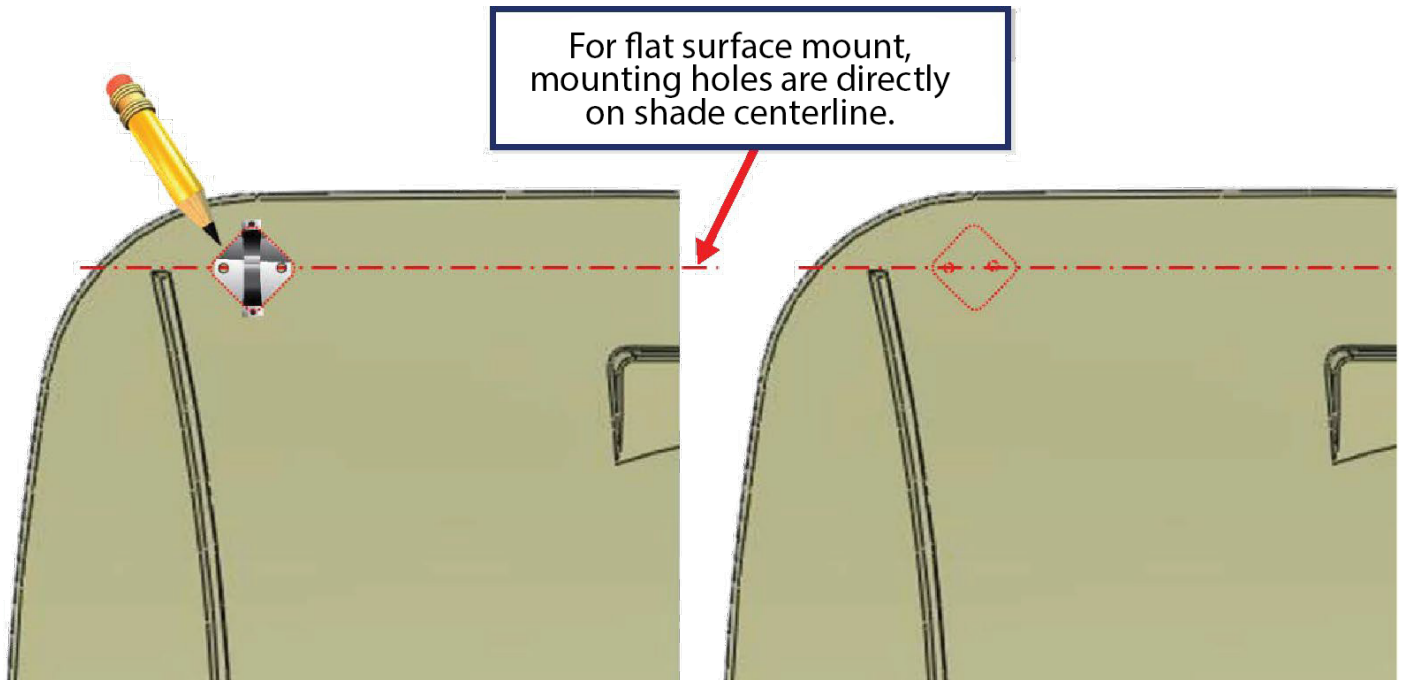

Fig.11
8. Carefully remove actuator from mounting clamps. Make sure mounting clamps are in marked location and mark holes for drilling. See figures 11 and 12.